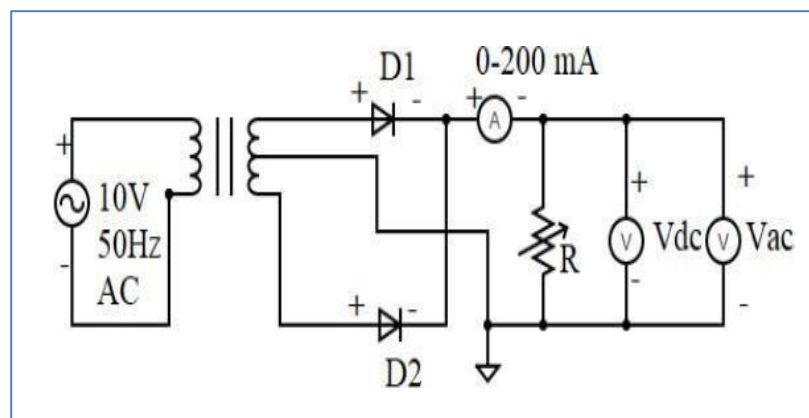

Fig 4.3 Full wave rectifier without filter
4.3 Verification of Full wave rectifier without filters using hardware shown in fig 4.3 and draw the waveforms.